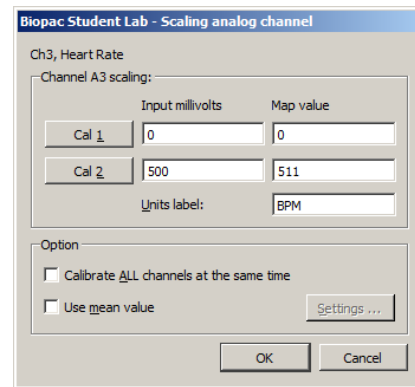

Figure 6
- Click the wrench button in the units (BPM) region of **CH 3** (Heart Rate) to display the Scaling dialog shown in Figure 6.